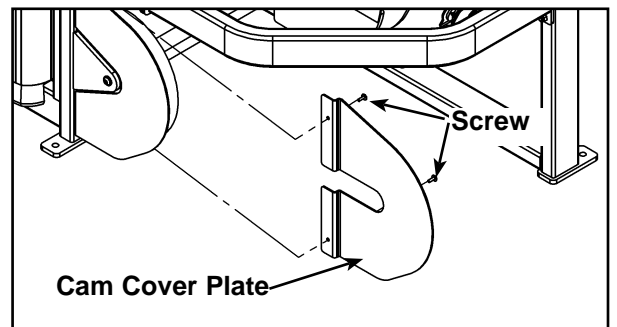

Figure 3
- H. Using a Phillips screwdriver, remove the two screws securing the cam cover plate (guard) and remove the plate. See Figure 3.